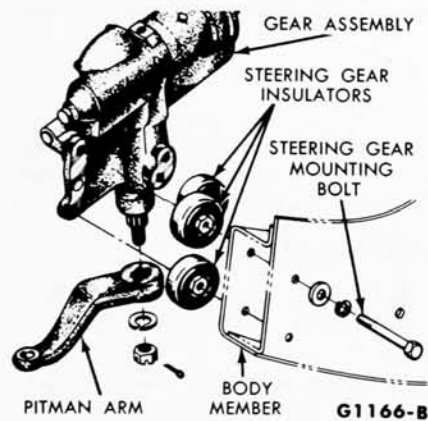

FIG. 21—Steering Gear Mountings
body member mounting bolts (Fig. 21), and pull the steering gear from the flexible coupling.
1. If a new gear is being installed, transfer the insulators (Fig. 21) from the old gear to the new one if they are in a serviceable condition.